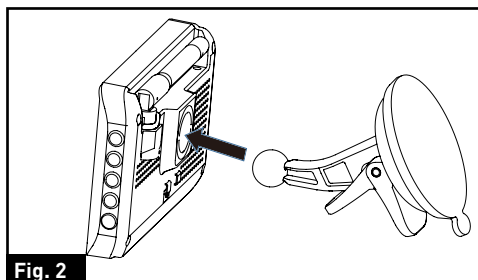

Fig. 2
4. Align the dot bullet of the suction cup with the opening on back of the monitor and push firmly until locked into place. (Fig. 2)